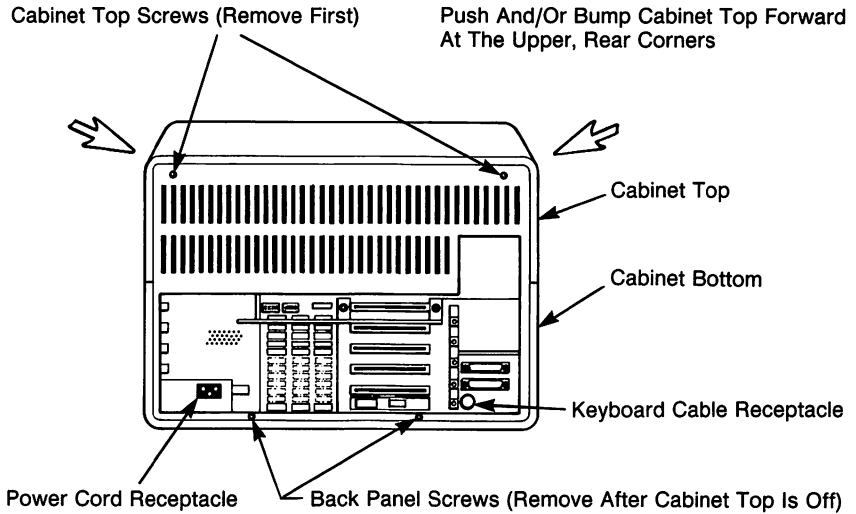
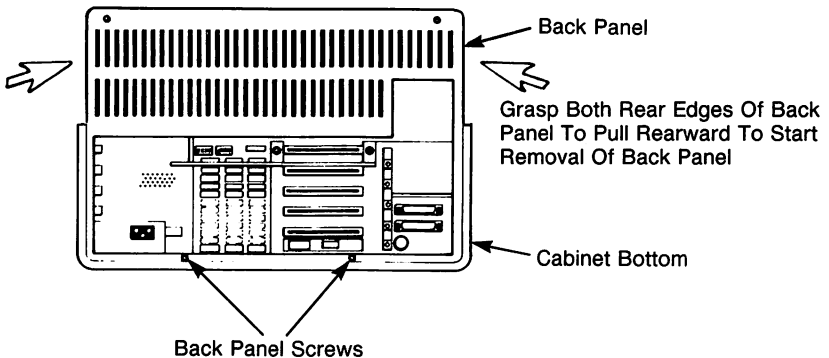

Figure 4-10 Rear View of PC Unit
Figure 4-11 Rear View of PC Unit
4. Remove the two top rear cabinet screws and lay safely aside. Refer to Figure 4-10.
6. Continuing to refer to Figure 4-10, and also to Figure 4-11, remove the two lower back panel screws and lay them aside.
7. Grasp both sides of the back panel where indicated in Figure 4-11 and firmly pull straight rearward. It will probably be necessary to apply a rocking motion as the panel is firmly pulled to the rear to overcome the close fit between the panel and the inside of the cabinet bottom.